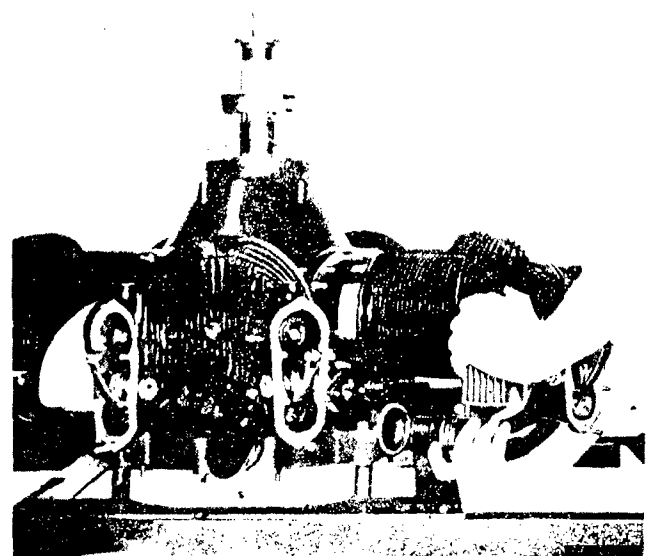

Figure 35 - Removing Cylinder
(4) Remove the 12 cylinder hold-down nuts on No. 2 cylinder with tool No. 20555, and remove the cylinder assembly including intake pipe, working it from side to side in a horizontal plane, **never up and down.** (See figure 35.)
(5) Place intake pipe packing nuts in container.